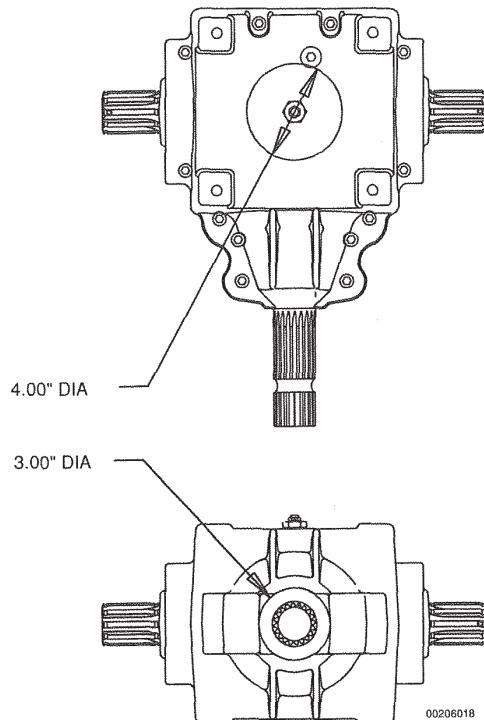

Figure 37. Acceptable Oil Leakage
1. Oil covers less than a 3-inch diameter area around the shaft seal area (see Figure 37).
2. Oil covers 4 inches around the vent or drain plugs (see Figure 37).